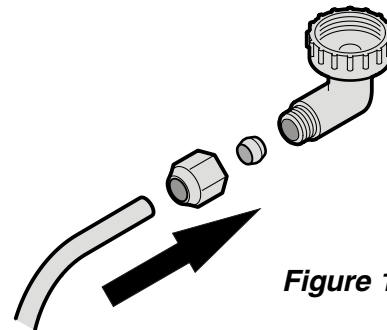

Figure 14
3. Connect the water line with the OD adapter (**Figure 14**).